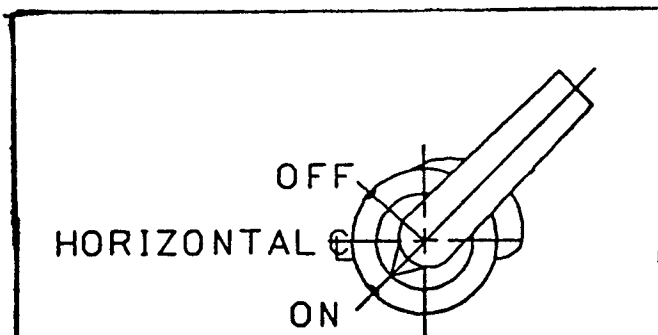

Figure 8. FRONT VIEW OF OPERATING HANDLE ON ENCLOSURE DOOR
10. Position operating handle on outside of enclosure door over holes drilled in Step 7. See Figure 8 for correct positioning. Secure handle to door using three 1/4-20 x 7/16" screws.